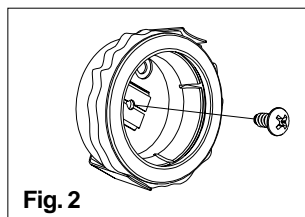

Fig. 2
- Press mounting clips at center and secure with screw (Fig. 2).